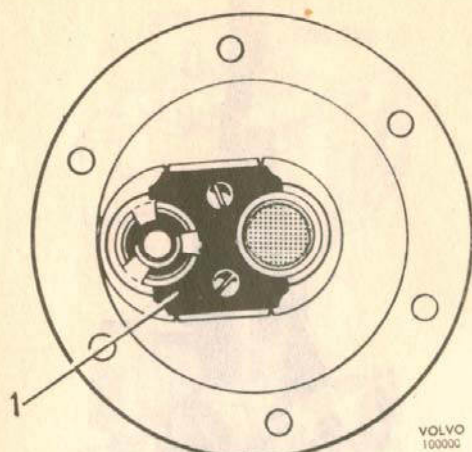

Fig. 1-82. Fuel pump early prod.
2. Remove the valve retainer (1, Fig 1-82) and remove the valves and gasket.